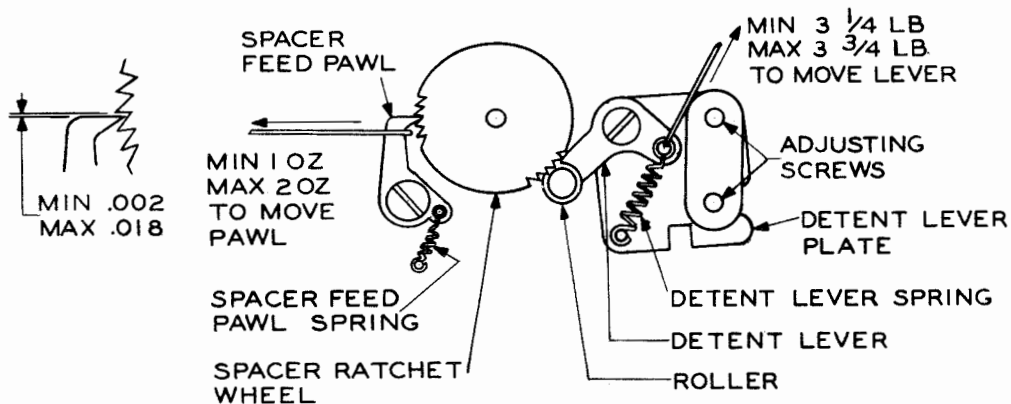

Figure 3
2.09 Spacer Feed Pawl shall clear the face of all teeth in the ratchet by minimum 0.002 inch, maximum 0.018 inch when the roller of the spacer operating lever is in the bottom of the indent of the main-bail plunger and when the detent roller is snugly bottoming between two teeth of the ratchet. Gauge by eye. (See Figures 3 and 4.)
2.10 Spacer Detent-lever Spring: With the detent roller resting in the hollow between two teeth, it shall require minimum 3-1/4, maximum 3-3/4 pounds to start the detent lever moving. (See Figure 3.)
2.11 Spacer Feed-pawl Spring tension shall be minimum 1 ounce, maximum 2 ounces. (See Figure 3.)